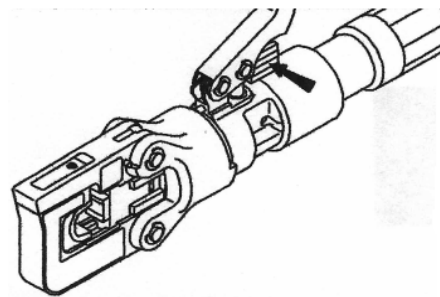

Figure 87. HD51 Pressure Release Trigger
- c. Activate the pressure release trigger to retract the hydraulic ram (Figure 87).